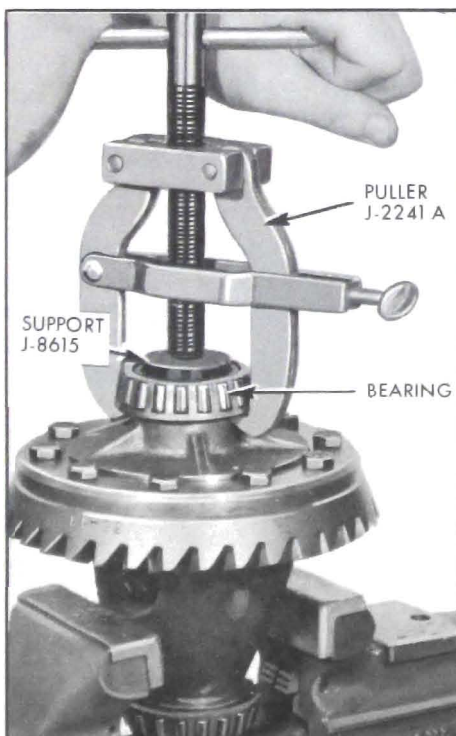

Figure 6-13—Removing Differential Side Bearing
1. If differential side bearings are to be replaced, insert Support J-8615 in center hole and pull bearing using Puller J-2241 A or Hydraulic Puller J-9005. See Figure 6-13.